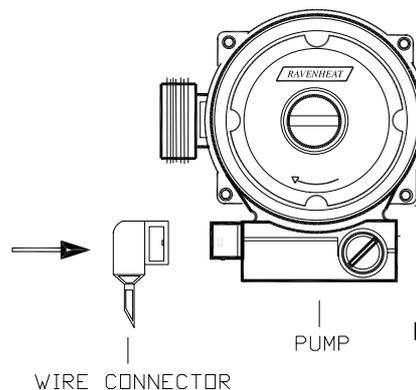

Fig. 56
7.22 TO REMOVE/REPLACE PUMP (fig. 56).